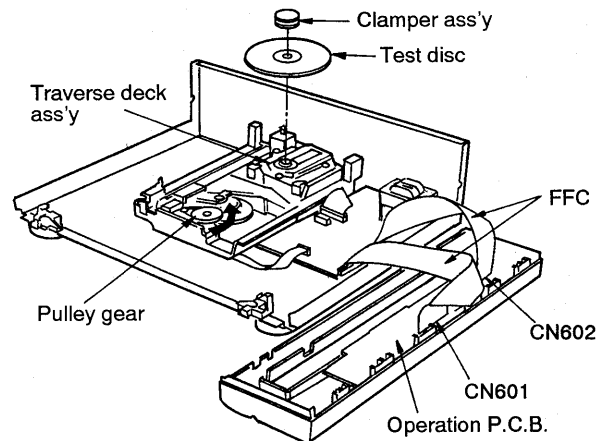

Fig. 2
11. Connect the 2 FFC (CN601, CN602) as shown in Fig. 2.